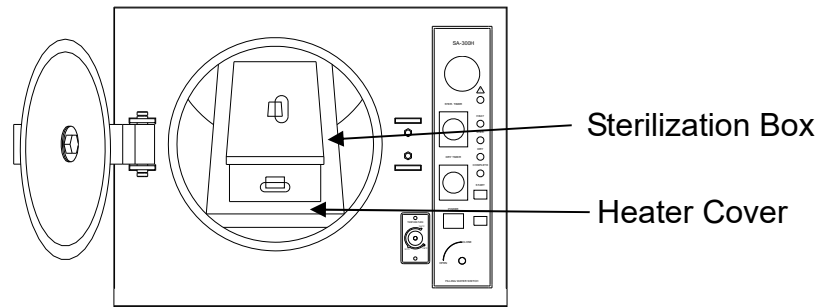

Figure 6
D. Install the Sterilization Box as Figure 6. (standard accessory)